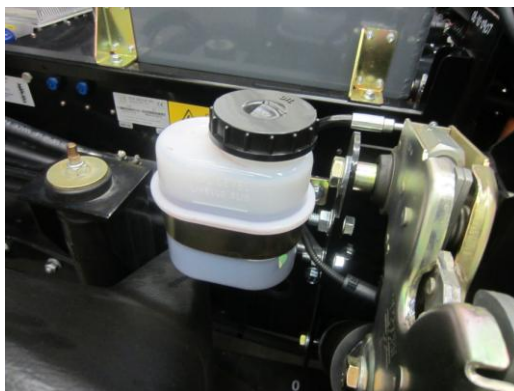

Figure 10.6
- ✓ Check fluid level in power steering reservoir and maintain level to **FULL** mark with Dexron/Mercon. Accessible under cab (Figure 10.6).